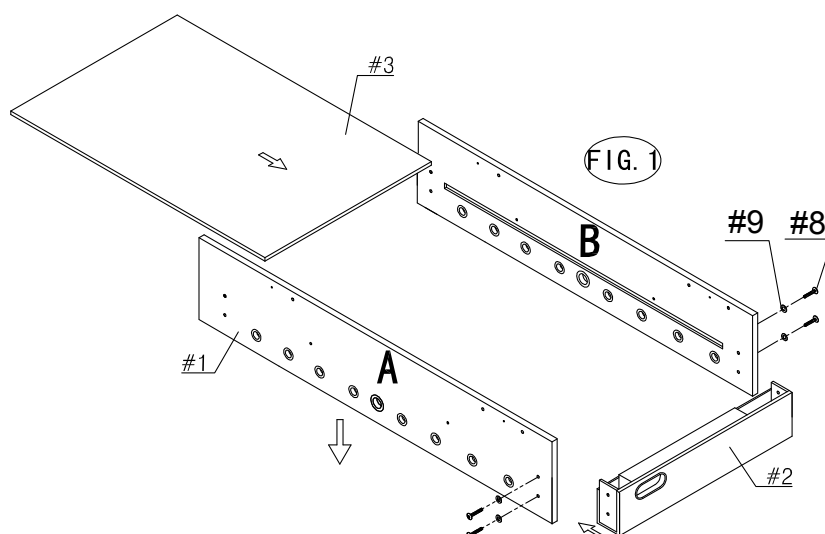

FIG.2.
6) Place the Support Brace (#7) on the Playfield (#3) as shown in FIG.2. Attach it using four of Washer Head Screws (#10).